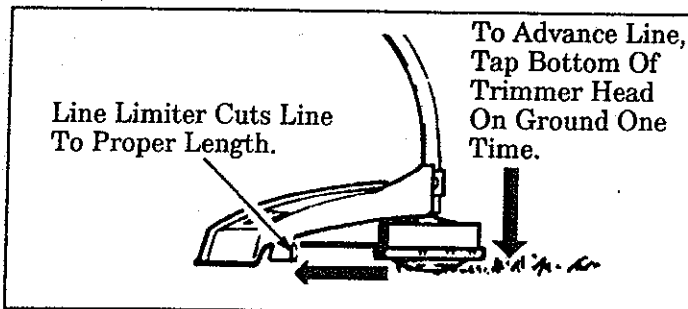

Figure 12
- Always keep the shield in place when the tool is being operated. Figure 12 .
3. Tap the bottom of the trimmer head lightly on the ground one time. See Figure 12 . Approximately 2 inches of line will be advanced with each tap.